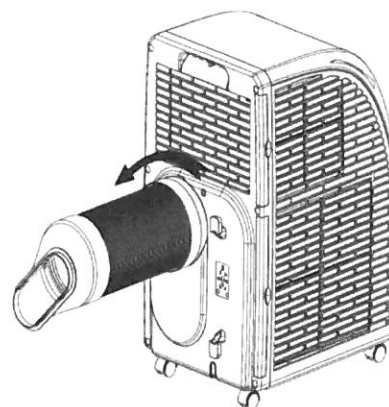

Fig.7
- Fix the round end of the connected exhaust pipe assembly to the air outlet of the air conditioner (as shown in Fig.7)